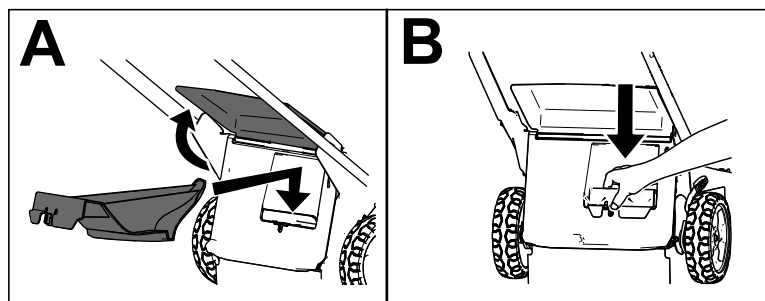

Figure 17
**Important:** Ensure that the rear plug is locked in place. To lock the plug, raise the rear deflector (A of Figure 17), and firmly push the plug down until it snaps into place (B of Figure 17).